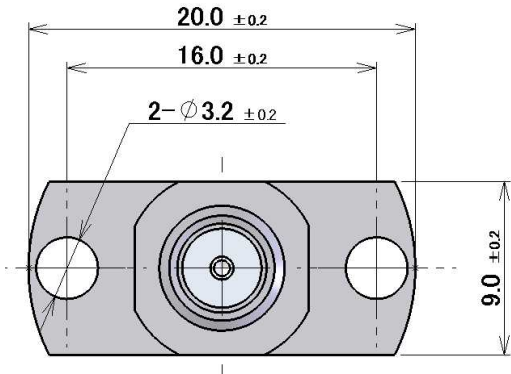

Figure 2. Flange dimensions
1. Refer to figure.2, 3, 11 for layout of the jig.